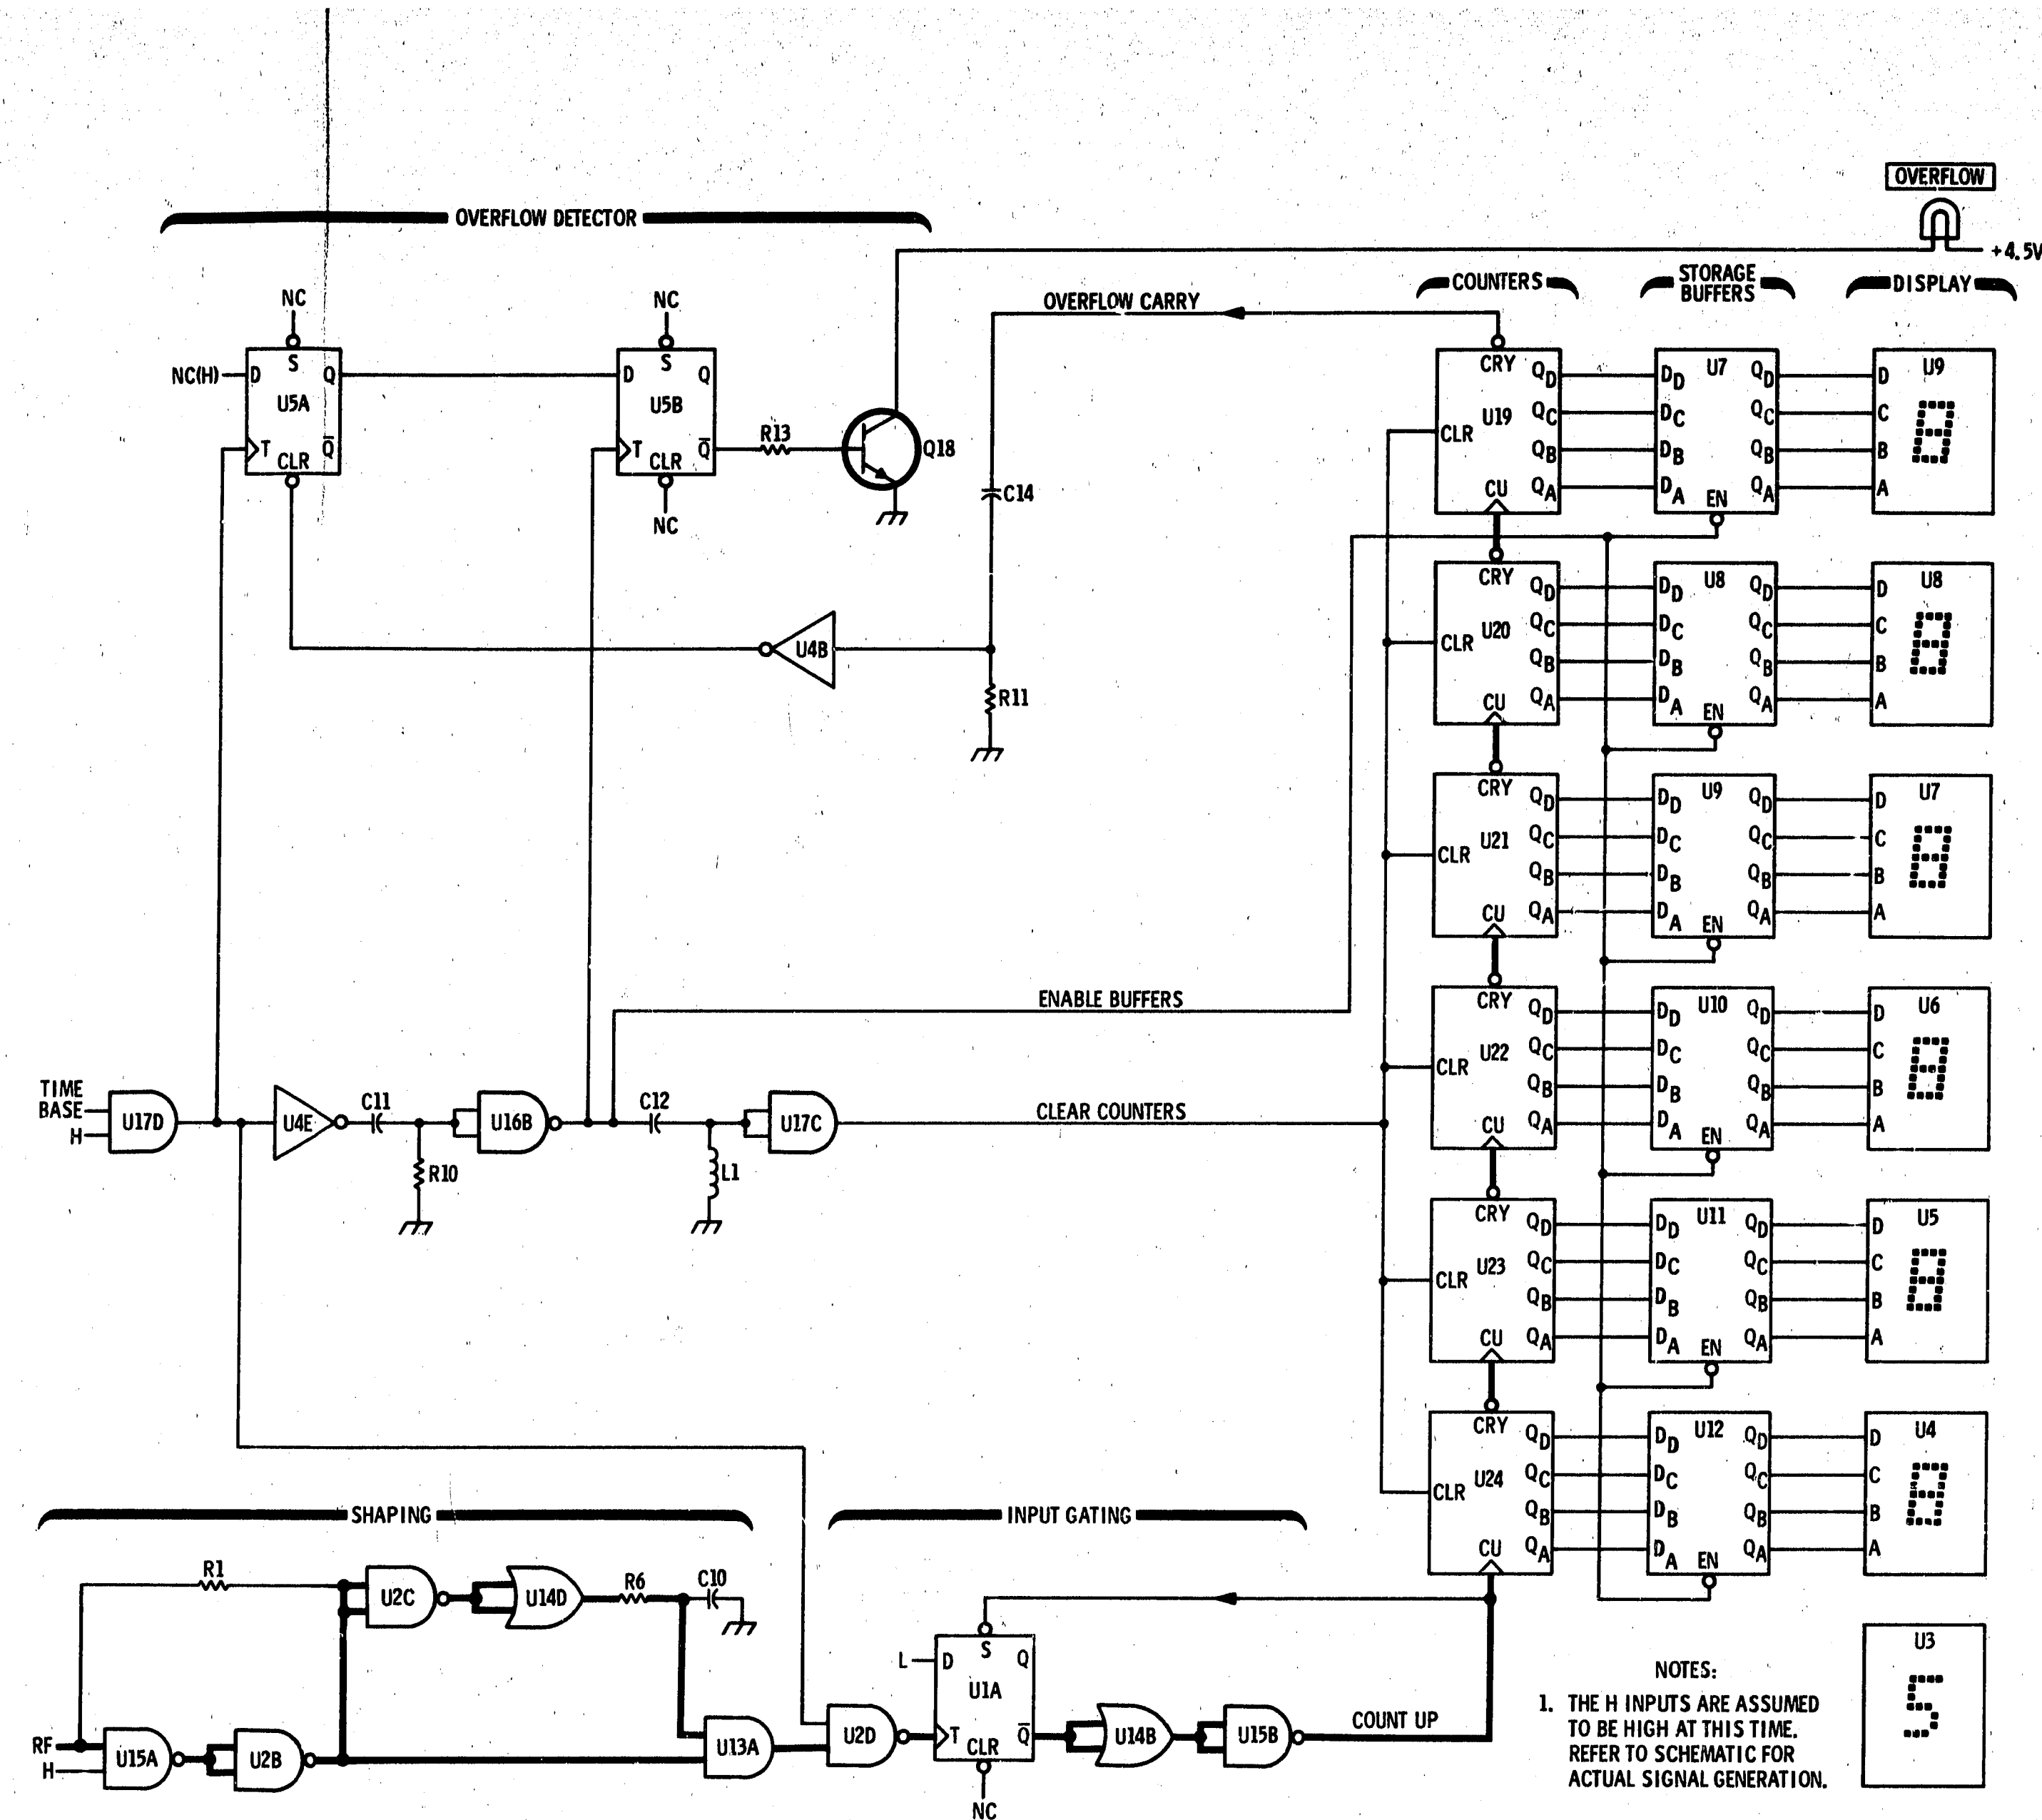

Figure 8-23. Up Counter (Counter Mode) Simplified Diagram
**Counter Operation — Count-Up Mode (see Figure 8-23)**